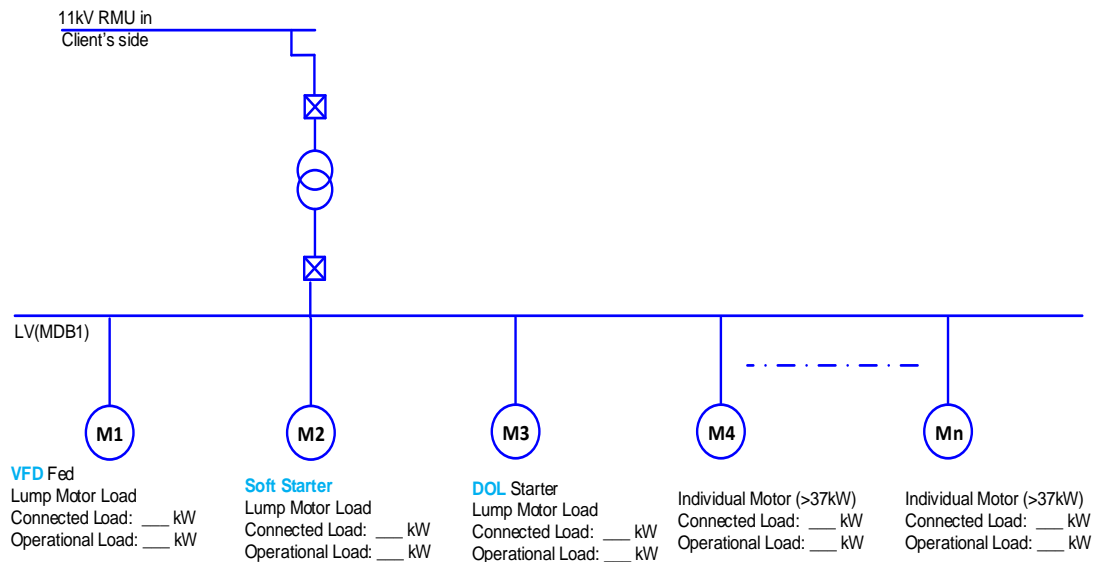

Figure 1 – Representation of Input Data – Individual and Lumped Motor Loads with Starting Methods
- 8- Estimate the amount of motoric load of each class (i.e. VFD fed, DOL type etc.) operational at the same time under each transformer under maximum load (i.e. worst case) conditions and mention them on the SLD as shown in figure 1 below:
- 9- 11kV RMU in client's side is the Point of Common Coupling (PCC) between MEDC and client as shown in figure 1